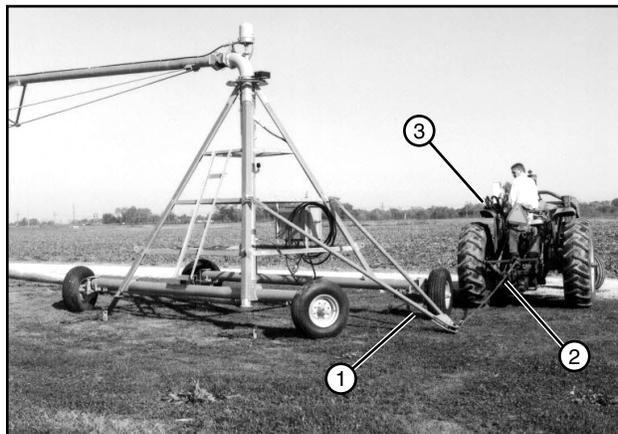

Figure 44-3 1. Tongue
10. Connect tongue to towing unit with a chain. See figure 44-3.